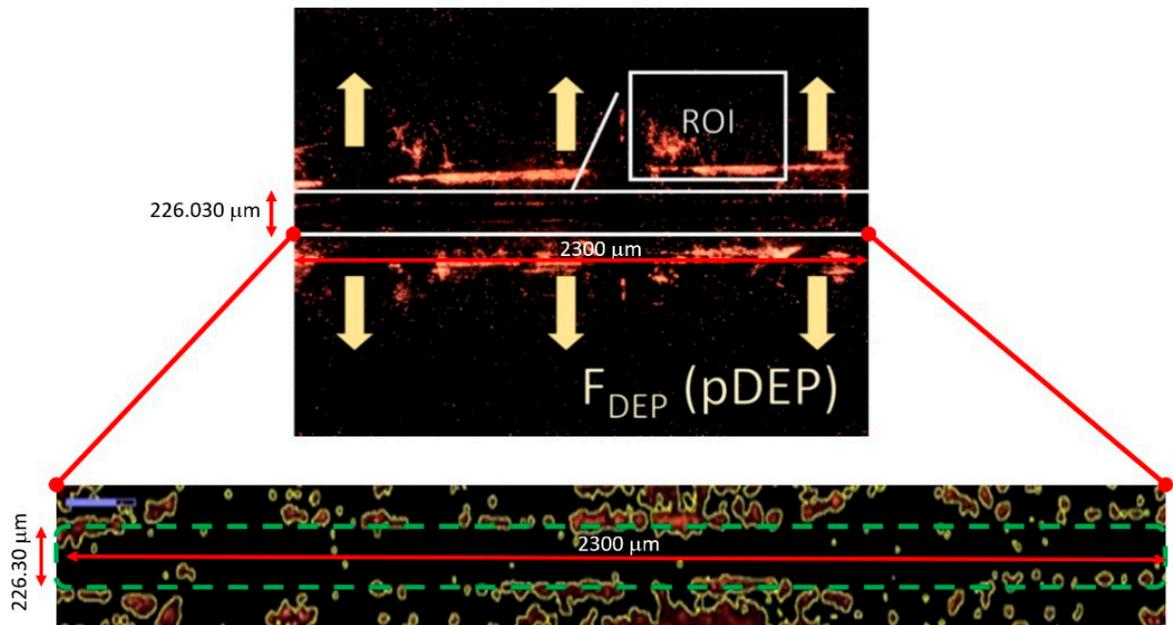

Figure S2. TAMA's manipulation efficiency calculated area.
- Table 3 (In article) investigates separation efficiency by determining the area of particles covered in the ROI before and after separation using ImageJ analysis. The detailed calculation area is shown in the Figure S2 below.